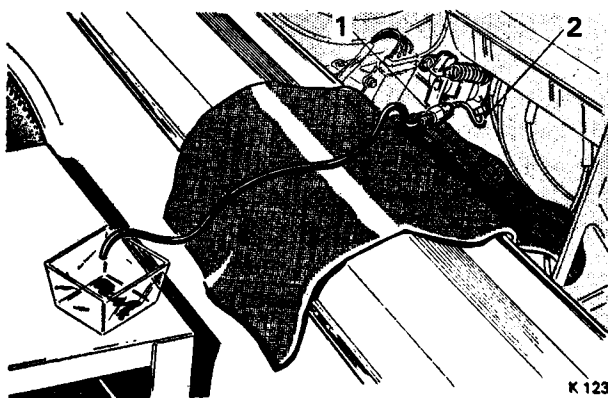

FIG. C16 DISCHARGING THE REFRIGERATION SYSTEM
3. Remove the protective cap from the suction throttling valve (see Fig. C16). Secure a length of pipe to the 'Schrader' valve adaptor (RH 7937) in such a manner that the free end of the pipe clears the car and rests at a level below the suction throttling valve. Place a clean container under the end of the pipe.